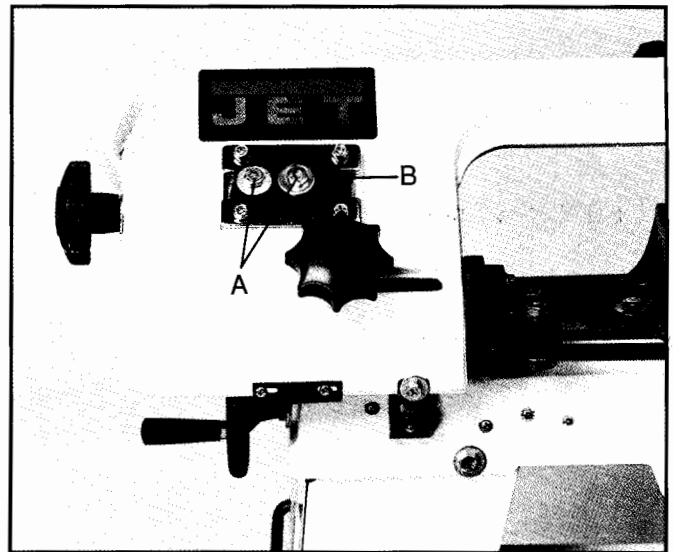

Fig. 12
5. Loosen bolts (A, Fig. 12).
6. Turn set screw (B, Fig. 12) while observing blade tracking on wheel. Turn set screw clockwise to track closer to wheel flange. Turn set screw counter-clockwise to track away from the wheel flange.
7. Once tracking is set, tighten bolts (A, Fig. 12).